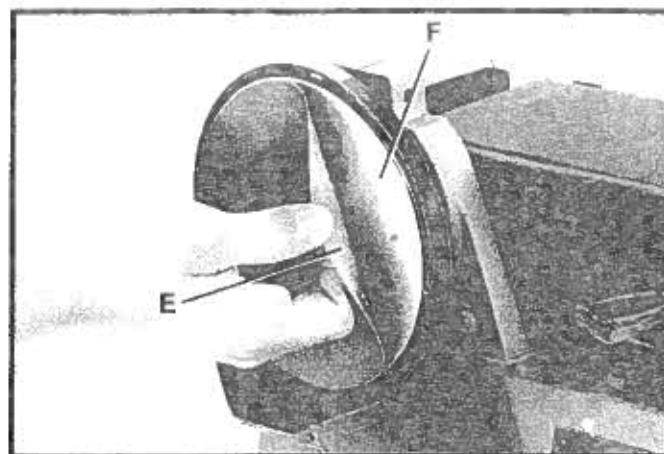

Fig. 44
4. Peel off old disc (E) as shown in Fig. 44.
5. Make sure the disc plate (F) Fig. 44, is clean and peel backing from new sanding disc. Press the new sanding disc firmly into position on disc plate (F) and replace lower cover and table assembly which were removed in **STEPS 2 and 3.**